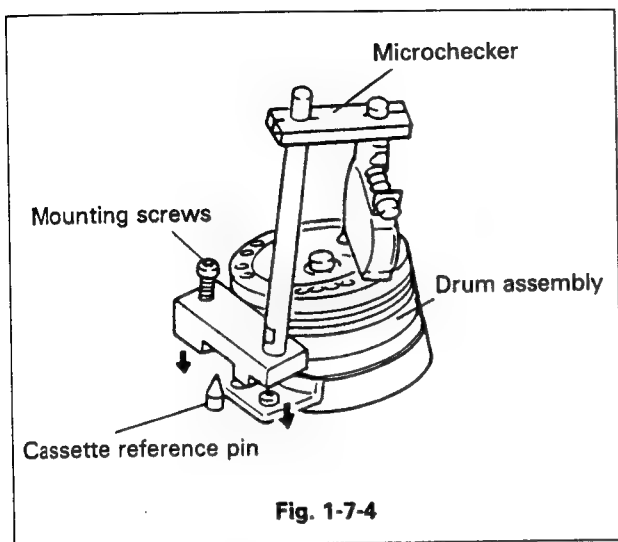

Fig. 1-7-4
- ③ Mount the microchecker with screws as shown in Figure 1-7-4.